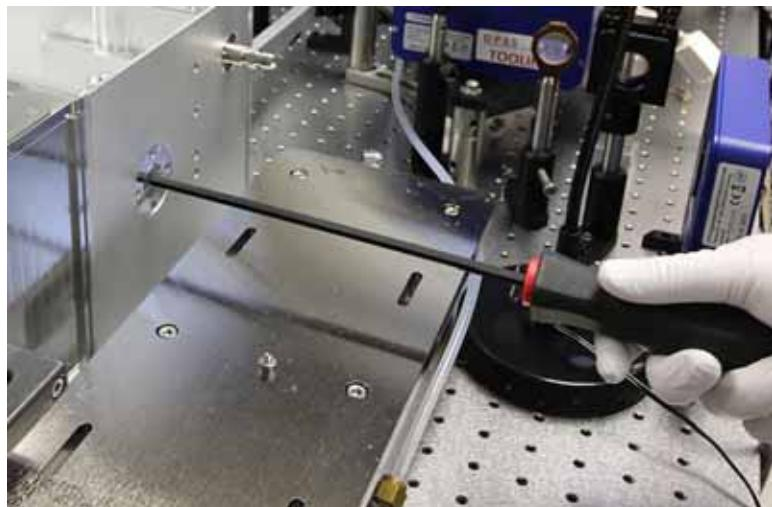

Figure 4.8-4. Changing Output Wavelength
2. Switch the laser to green output (laser is shipped with switch set to IR output) by unlocking the toggle and turning counter-clockwise with a 6.0mm hex key (Figure 4.8-4).
13. Switch the laser to IR output by unlocking the toggle and turning clockwise with the 6.0mm hex key (Figure 4.8-4)
(Figure 4.8-4). Ensure that the stage goes all the way down to contact with the plate underneath.